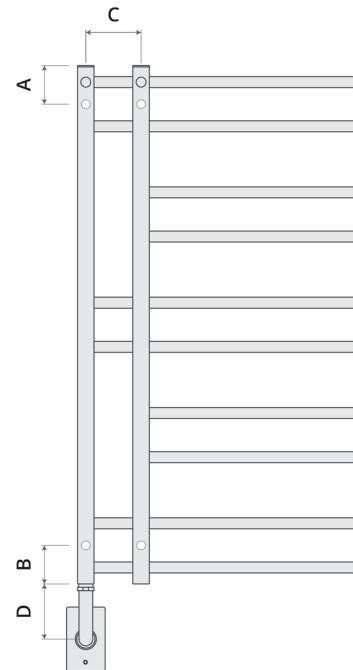

Figure 1
2. Measure and determine overall towel warmer dimensions as well as A, B & C (see Figure 1) before installation.